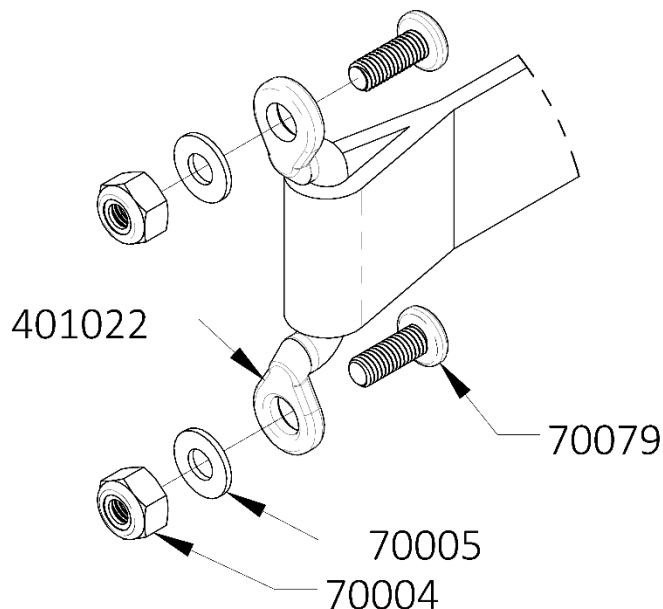

Figure 20: Webbing Anchor Hardware
32. Thread the other end of the door strap (401035) into the webbing anchor (401022) as shown in Figure 20. Install the webbing anchor to the door where the rubber grommet was removed.